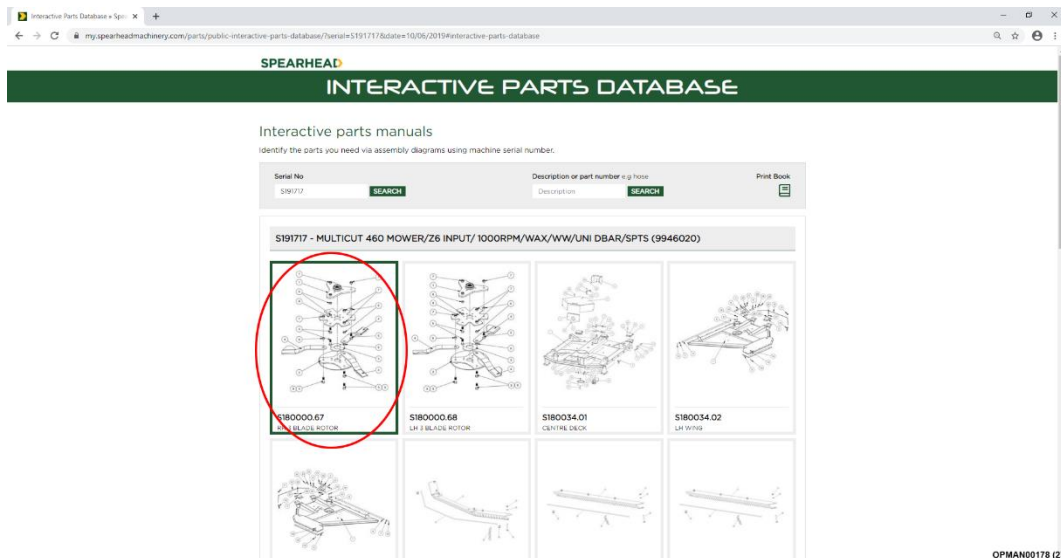

Figure 20 – Click On Assembly
7.2.1.3 After clicking on the serial number a full parts breakdown, specific to the machine serial number will appear showing the various parts and assemblies of the machine. Click on the specific assembly picture required; see Figure 20.